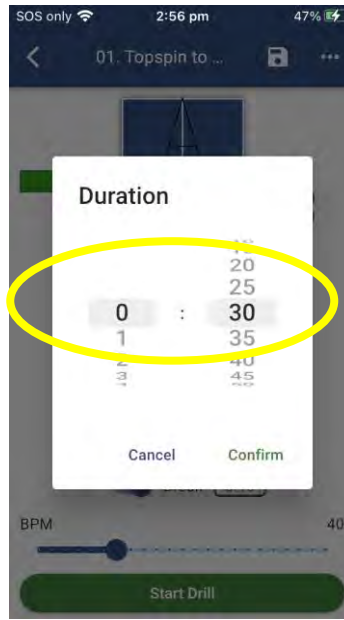

Figure 3-49
3. Touch the Duration time box to adjust the length of time you would like the Drill to run. (Figure 3-49)